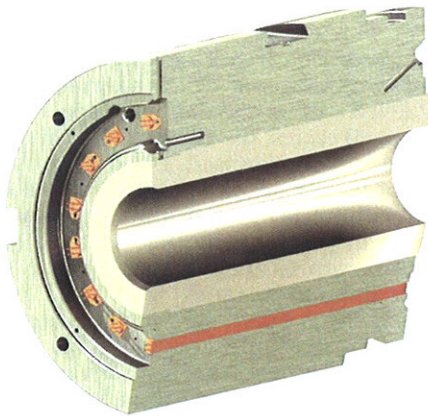

Figure 5. Quick response container.
A properly designed and operated container will keep the die at a uniform temperature during the extrusion process. The flow of alloy through the die is therefore as planned by the die designer. Use of a Quick Response (QR) Container (Figure 5) improves recovery and reduces downtime for the following reasons: